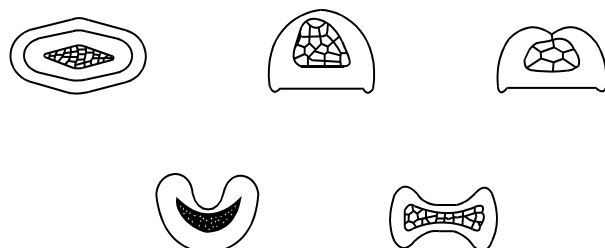

Figure 10-27 Cross Sectional Views Of Type 2 Crimps
44. Type 2 crimp tools, are used to produce a formed crimp. The tool can be fitted with a number of different die sets used to compress the barrel of a crimp into a variety of shapes. Figure 10-27 shows a cross sectional view of various formed crimps.